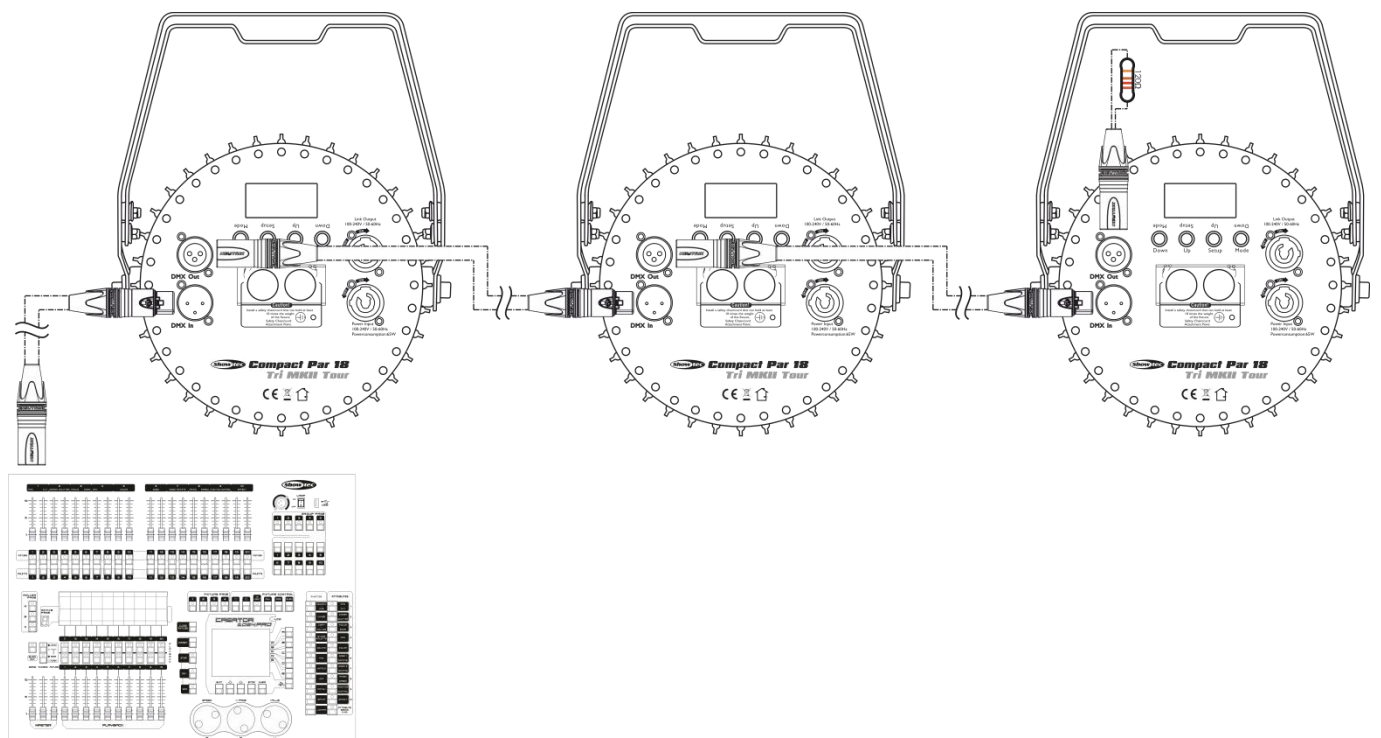

Fig. 05
- 05) Link the units as shown in fig. 05. Connect a DMX signal cable from the first unit's DMX "out" socket to the second unit's "in" socket. Repeat this process to link the second, third, and fourth units.